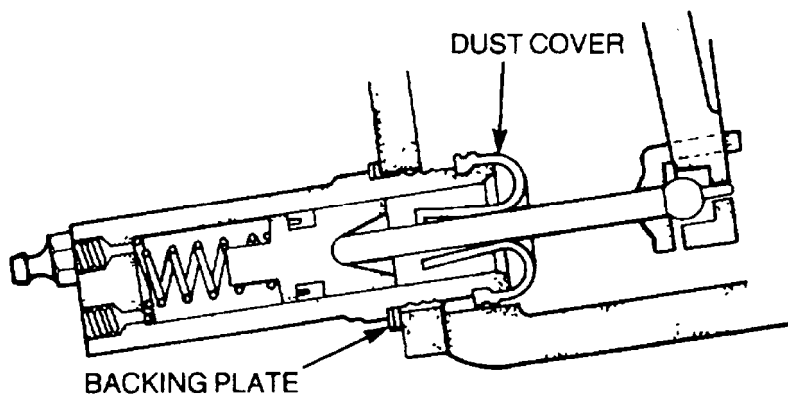

Figure 50 Clutch Slave Cylinder Installation
- Install the cylinder into the bell housing, ensuring the push rod is inserted into the dust cover and the bleed screw is uppermost (Figure 50).